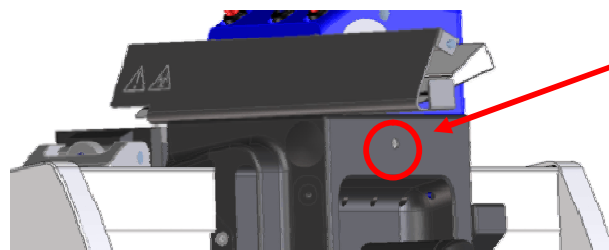

Fig. 2-3-3
- Fix the ballast with the laterally set-screw (Fig. 2-3-3)